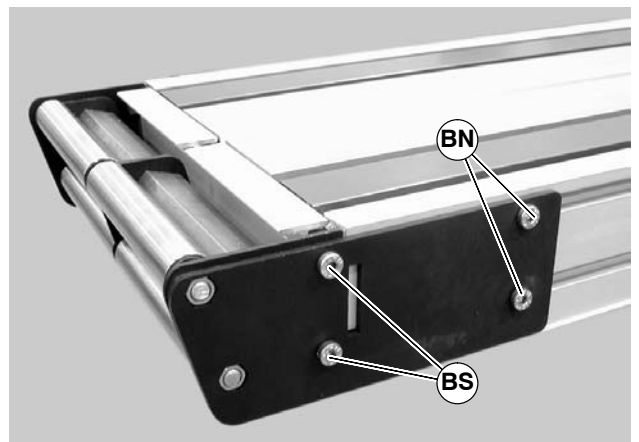

Figure 54
2. On one side of conveyor, loosen the two (2) back fastening screws (BN of Figure 54), and remove the two (2) front fastening screws (BS).